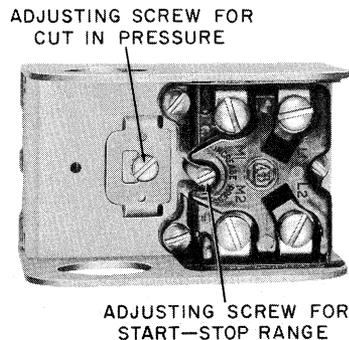

Fig. 4 — B-124 Pressure Switch
(2) *If the pressure exceeds 32 psi*, the trouble is probably in the B-124 Pressure Switch (in the top section of the cabinet) and adjustment or replacement of the switch will be necessary (Fig. 4).
- (1) *Put on rubber gloves.*
- (2) With the 3-conductor incoming power cord connected and the master stop-start switch on, remove the top cover of the cabinet.
- (3) Check the operation of the pressure switch by noting the pressure at which the air compressor starts and stops. The high pressure gauge should cycle within an approximate range of 20 to 30 psi.
- (4) To *increase* the start and stop range, turn the adjusting screw at the top of the terminal block in a clockwise direction (Fig. 4).
- (5) To *decrease* the start and stop range, turn the adjusting screw at the top of the terminal block in a counterclockwise direction.
- (6) If the 10-psi range difference between start and stop settings of the switch requires adjustment, turn the adjusting screw at the base of the terminal block counterclockwise to increase, or clockwise to decrease, the cut-in pressure. This adjustment will not change the cutout pressure setting.
- (7) Remove rubber gloves.